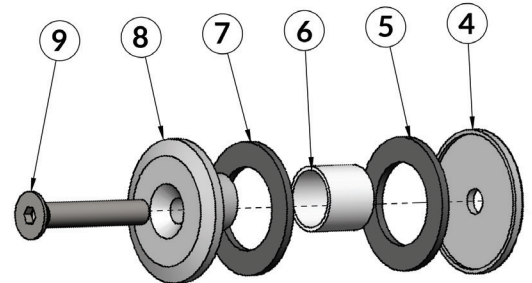

FIG 26.
- Using the wooden wedges to raise and lower the door, use the allen key to engage and screw in the bolt (9, FIG 26).
- Make sure the nylon washers are flat against the glass so no metal contacts the glass (5 & 7, FIG 26).